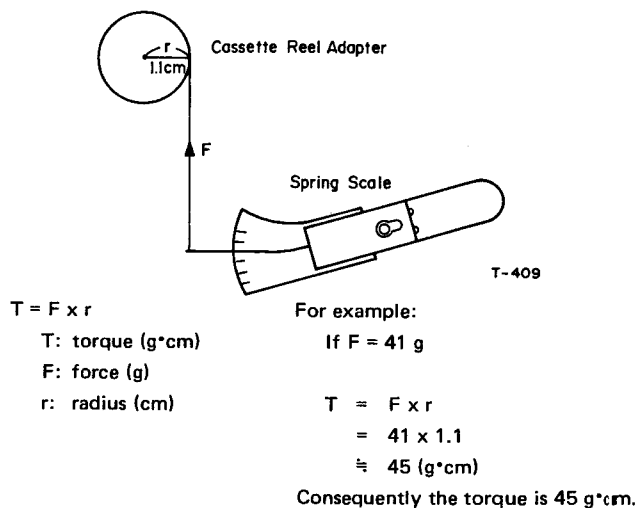

Fig. 4-3 Torque Calculation Method
6. The scale should indicate Force of 36 ~ 64 g (1.3 ~ 2.2 oz.). This corresponds to a torque of 40 ~ 70 g·cm (0.6 ~ 1.0 oz·inch). For the torque calculation, refer to Fig. 4-3.